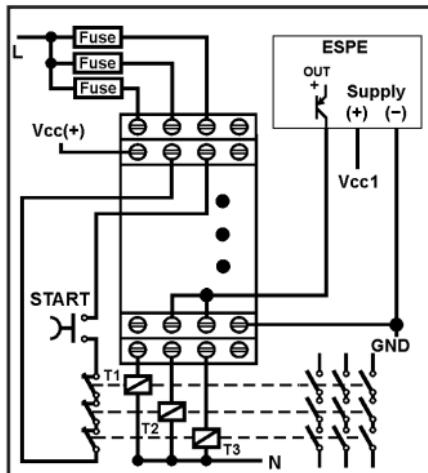

Fig. 5: ESPE: 1 uscita PNP a 1 filo /
- *ESPE with one one-wire output (PNP-type or relay-type)*: connect the output to the S11 terminal; short-circuit the terminals S11 with S22, leaving S12 and S21 not connected (fig. 5, 6, max safety cat. 2).
In Fig. 5 and 6 are shown the connections of ESPE with 1 one-wire output: the ESPE output is connected to S11 and S22 is short-circuited to S11. The category of the application can reach up to category 2 according to the EN954-1 and EN13849-1 standards.